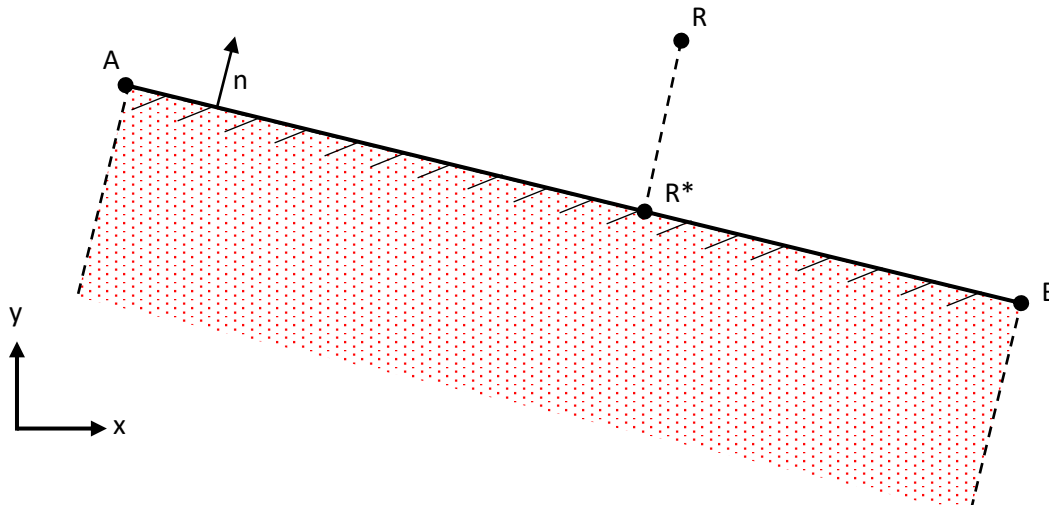

Figure 2: Non-active node R
Is a function that detects inactive degrees of freedom in each step of iteration. Inactive DOFs are the ones that are non-penetrating and have non-compressive Lagrange multipliers. To check if a node is non-penetrating, we have to evaluate its gap function to each segment after applied displacement $u \neq 0$. Node R must not lie within the area marked on the Figure 2. Calculation is the same as in *computeGapFunction*, but now two extra conditions (7) and (8) must be satisfied.